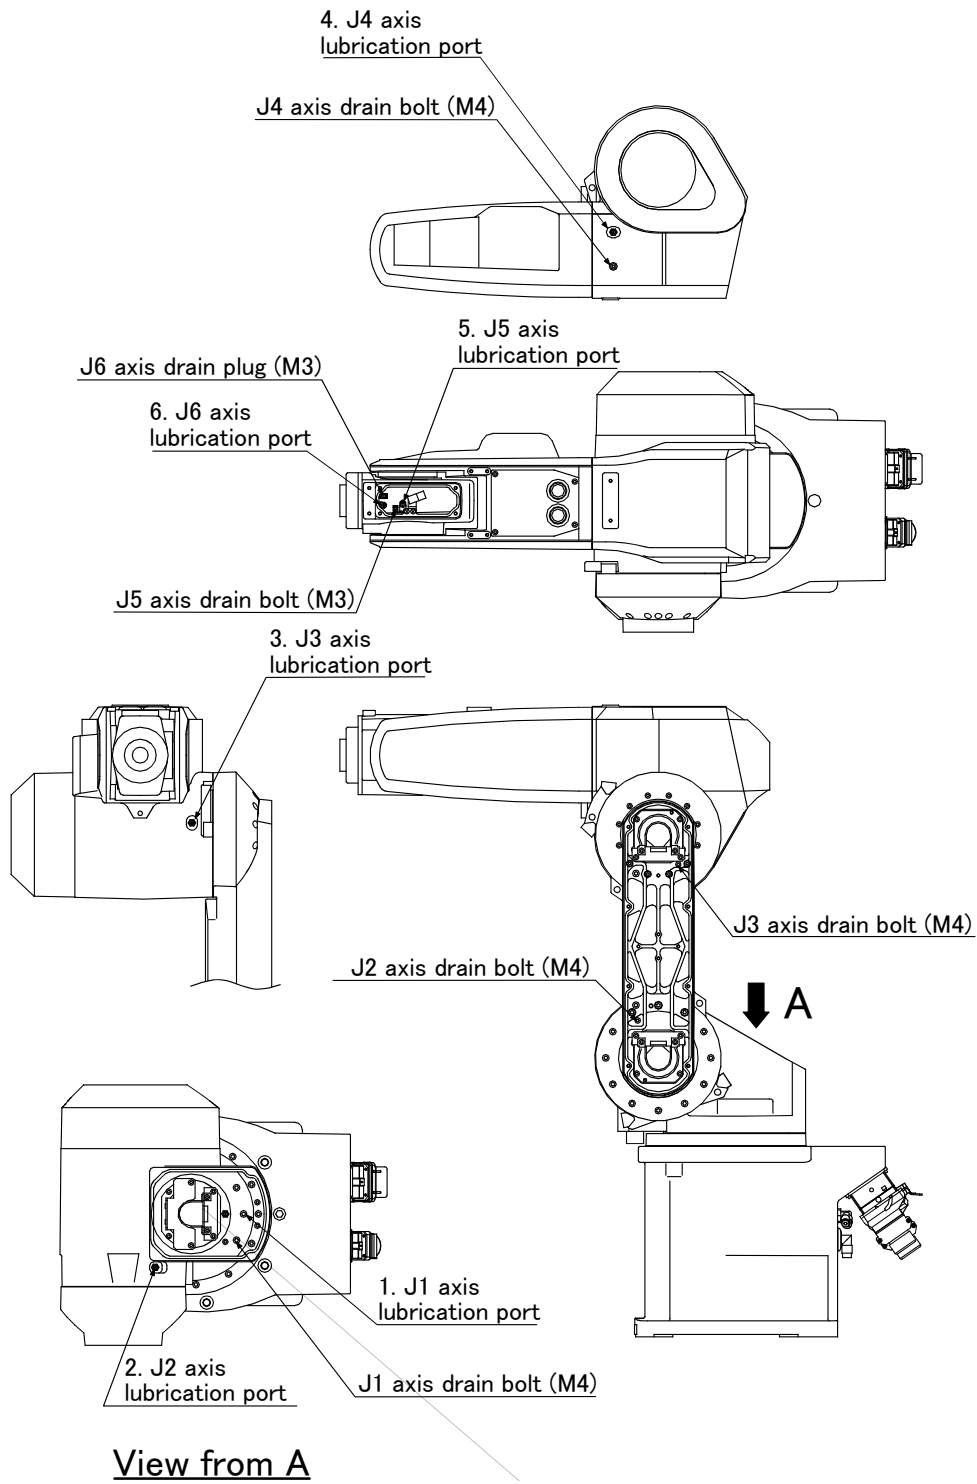

Fig.5-6 : Lubrication positionsLubrication positions
The grease nipple position is shown in Fig. 5-6. The lubrication specifications for each place are shown in Fig. 5-6 [Caution]
- The numbers in the correspond to the supply positions in Fig. 5-6.
- 1) Set the robot to the posture shown in Fig. 5-6.